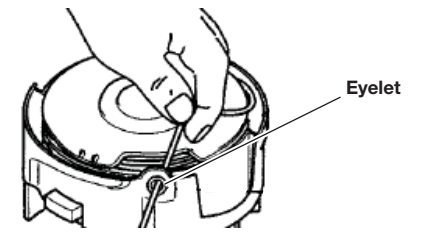

Fig. 19
10. Insert a line through each of the two eyelets on the hub (Fig. 19).